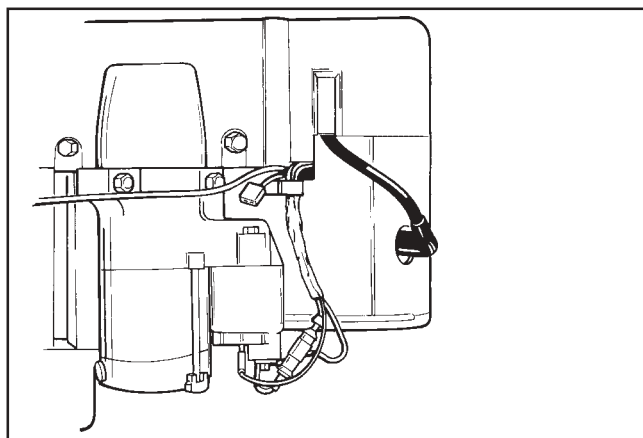

Figure 11-57. Wires on Starter Side of Engine.
1. Pull the wire harness and spark plug leads out through the appropriate openings in the shrouding. See Figures 11-57 and 11-58.
3. Position the outer baffles and secure using the four hex flange screws (two long, two short) in the front mounting holes (into cylinder head), including any lifting strap or attached bracket(s). Install the two short screws in the upper mounting holes of the outer baffles (into the backing plates). See Figures 11-60 and 11-61. Use the short screw on the left side to mount the wire harness bracket. Be sure any leads are routed out through the proper offsets or notches, so they will not be pinched between the blower housing and baffles. See Figures 11-57 through 11-59.